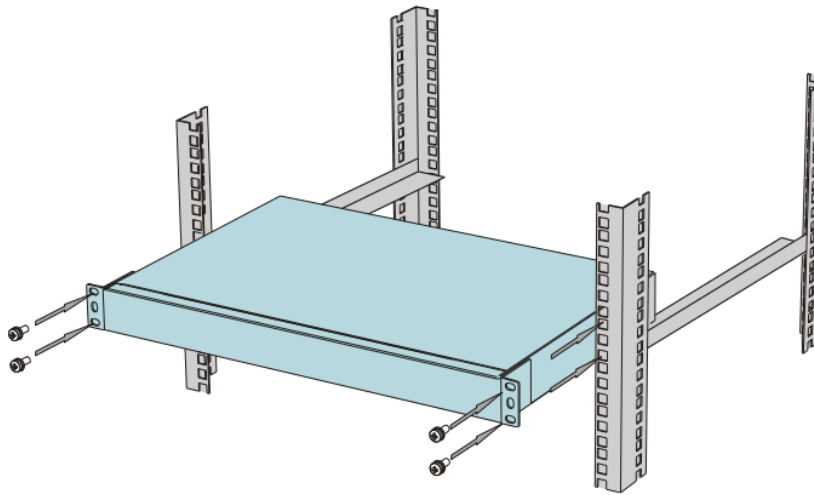

Figure 28: Installing the device in a switch cabinet
- ☐ Attach the mounting bracket to the switch cabinet using screws that meet the cabinet installation requirements (the screws are provided by the cabinet manufacturer and are rust proof on their surfaces). Ensure that the screws are in horizontal position. See Figure 28.